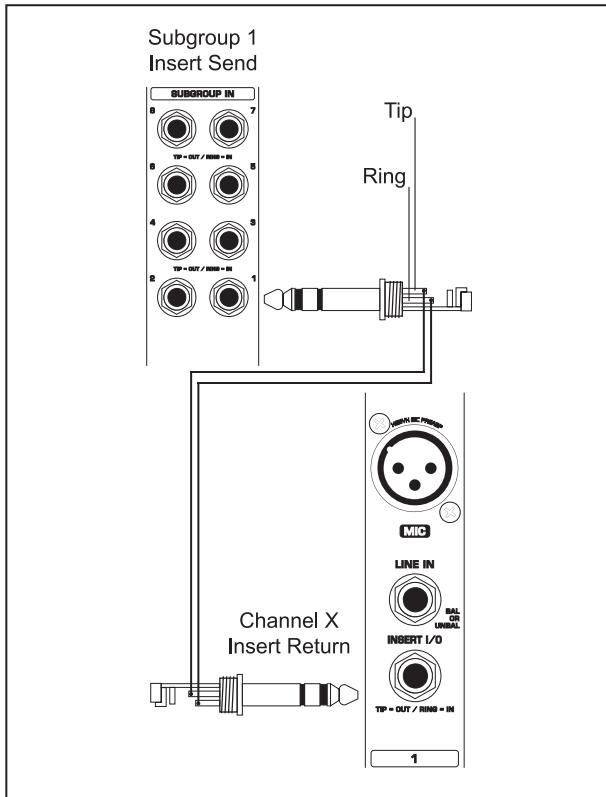

Fig. 5.3: Making use of the channel EQ for shaping subgroup-signal by applying inserts
- ◆ SX3282 insert points are, of course, simultaneously inputs and outputs. For goodness sake, get them onto a patchbay, where they can appear as independent sockets, and do away with all these fiddly Y-leads that always seem to be the first to get knotted in the flightcase (see section 9 "Patchbay"). Now it is possible to do the incredibly useful patch shown in fig. 5.3 without having to make up what would amount to a ring-to-tip, tip-to-ring stereo patch lead.